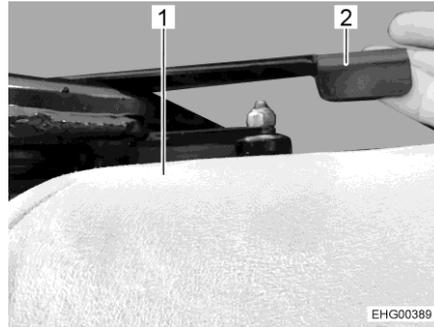

Fig. 21 Backrest, lower part
- Press the lever (Fig. 21,2) at the underside of the seat upwards.
- Place the lower part of the backrest (Fig. 21,1) upright.